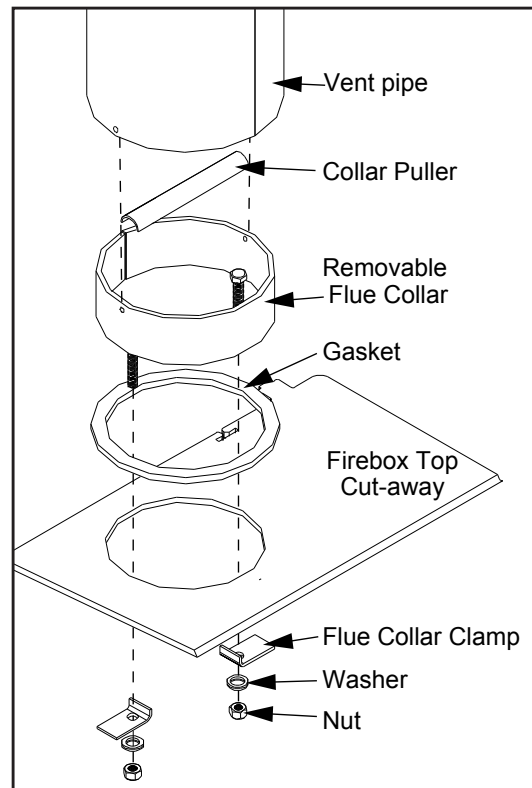
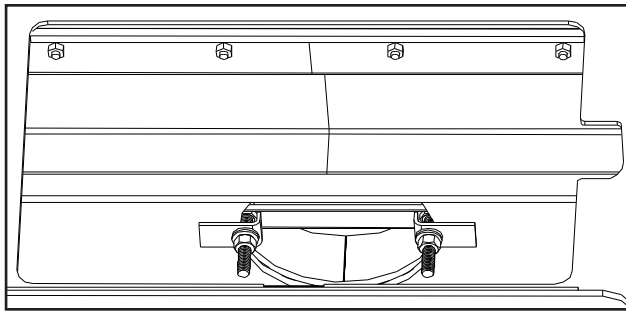

Figure 14: Attaching removable flue collar.
Figure 15: Removable flue collar in place.
- a) Remove the rear two (2) secondary air tube and C-Cast Ceramic Baffles, if installed (see C-CAST CERAMIC Baffle INSTALLATION). Remove the secondary air tubes by placing a screwdriver (any style except flat head) into one of the air holes and tapping it with a hammer/mallet to the left.
- b) Unscrew the two (2) nuts on top of the inside of the firebox, using a $\frac{9}{16}$ " wrench or socket (see Figure 14). The Flue Collar Clamps will slide off the bolts.
- f) Place the Collar Puller, over the two bolts of the Flue Collar and pull it into place (see Figure 14). Ensure that the bolts are to the left and right of the hole. If they are not, the front secondary air tube will need to be removed in order to install or remove the C-Cast Ceramic Baffles.
- h) Re-install C-Cast Ceramic Baffles and the rear two (2) secondary air tube (see C-CAST CERAMIC Baffle INSTALLATION).
- 3.** There are four (4) leveling legs (shown in Figure 15), two (2) on each side, one at the back and one at the front of the unit. Adjust the legs using a $\frac{3}{8}$ " wrench to ensure the unit is stable.